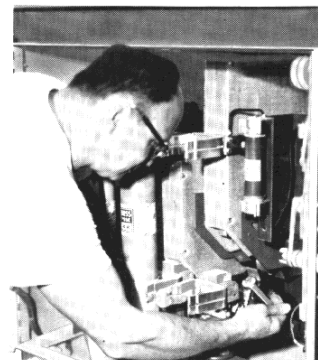

Figure 2 Contact Tip
Remove the power fuses, if used, (item 11) and barriers (75). Raise arc chute and prop it in raised position. Use an open end wrench as shown in figure 2 to remove the screw (50) and lock washer (48) securing the lead assembly and moving contact tip (49) to the shaft assembly (25). Remove the screw securing the stationary contact tip. Replace all stationary contact tips first and then replace moving contact tip. An electrical clearance of 7/8" between the stationary and movable contact tips is required when the contactor is de-energized. To adjust the clearance between the tips, turn adjusting screw (114). Remove prop under arc chutes and lower into place; replace barriers and power fuses.